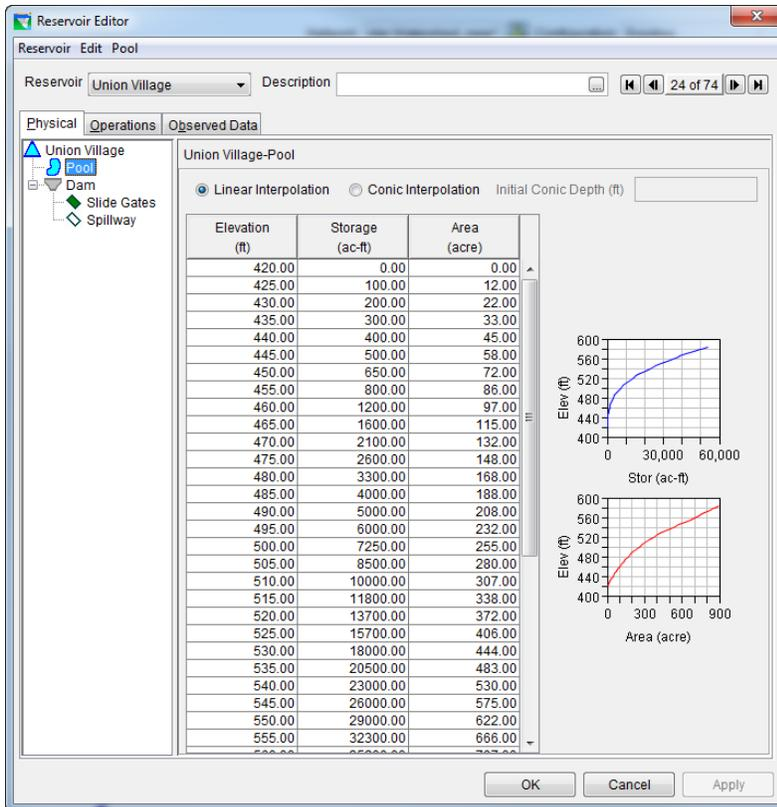
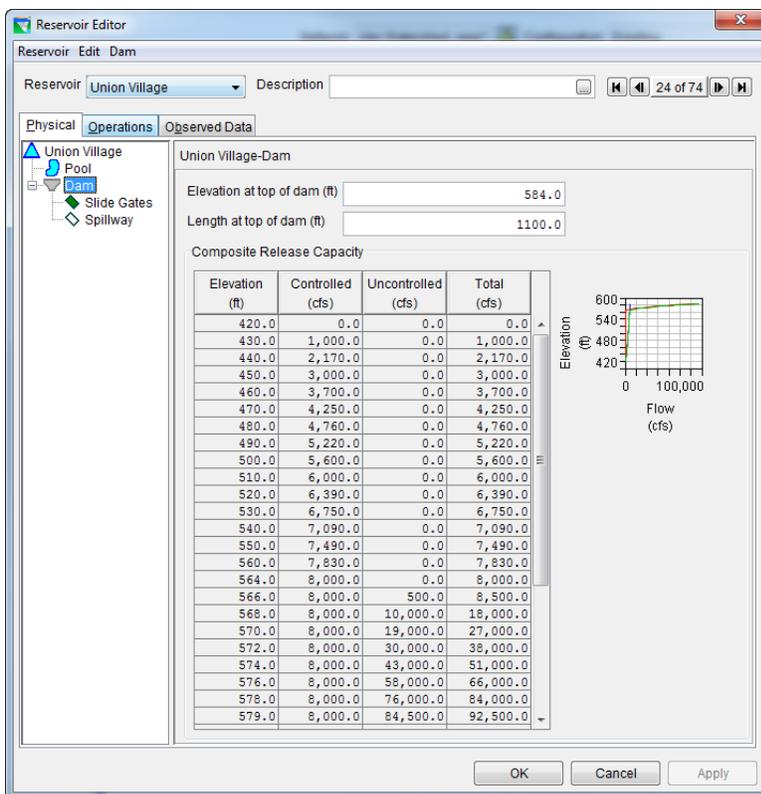

Figure 3: Reservoir Editor: Physical Tab -- Pool
Figure 4: Reservoir Editor: Physical Tab -- Dam
The physical characteristics of the reservoir are separated between the Pool and the Dam in the HEC-ResSim model. The elevation-storage-area defines the pool as shown in Figure 3. The dam consists of two types of outlets: (1) controlled Slide gates, and (2) uncontrolled Spillway, as shown in Figure 4. All physical and operations data were provided by US Army Corps New England District, through both a previously created ResSim model and the Reservoir Regulation Team website100.